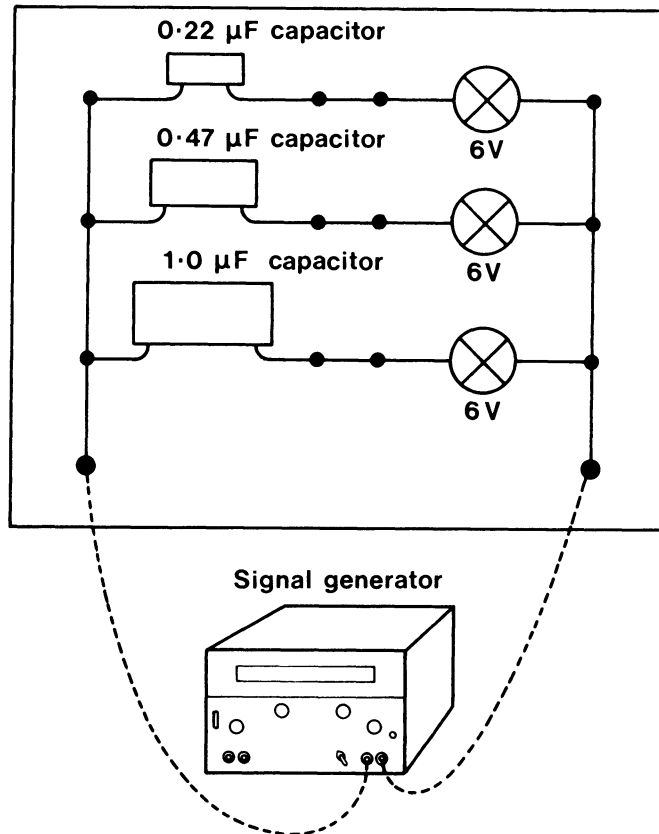

FIG. 1.7
1. Build the circuit shown in Figs. 1.7 and 1.8 and before connecting the signal generator see what happens when a 9 V battery is used in its place. It should be found that, no matter which way the battery is connected, none of the bulbs lights. This is because capacitors do not allow direct current to flow through them and no current, therefore, is able to flow into the bulbs.